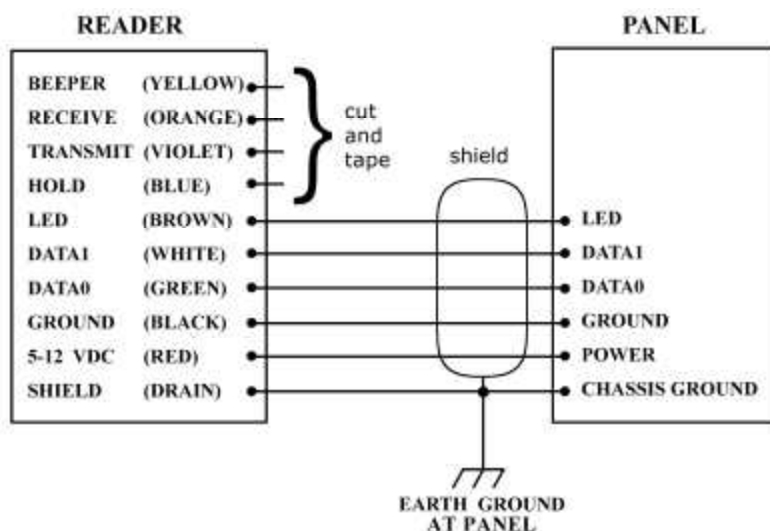

FIGURE 2: WIRING DIAGRAM
4. Connect the reader's cable to the access control panel as shown in Figure 2. Connect the **yellow** wire only if used for Beeper control by the panel. Connect the **blue** wire only if used for Hold control by the panel. **Do not connect** the **orange** and **violet** wires to anything. **Tape or cap all unused wires singly.**
- 5 to 7 conductors (not twisted pairs), stranded, 22 AWG, color-coded insulation, overall 100% shielded (Number of conductors depends upon use of optional features – Beeper, Hold and LED. See Figure 2.)